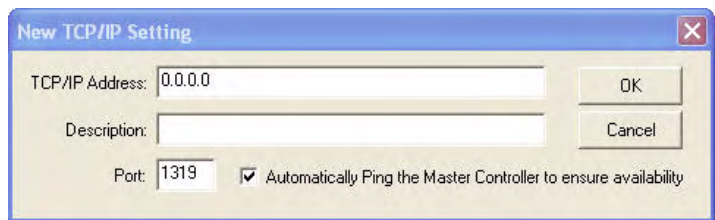

FIG. 24 New TCP/IP Setting dialog box
- Click the **New** button to open the *New TCP/IP Setting dialog box* (FIG. 24), where you may enter both a previously obtained DHCP or Static IP Address and an associated description for the connection into their respective fields.